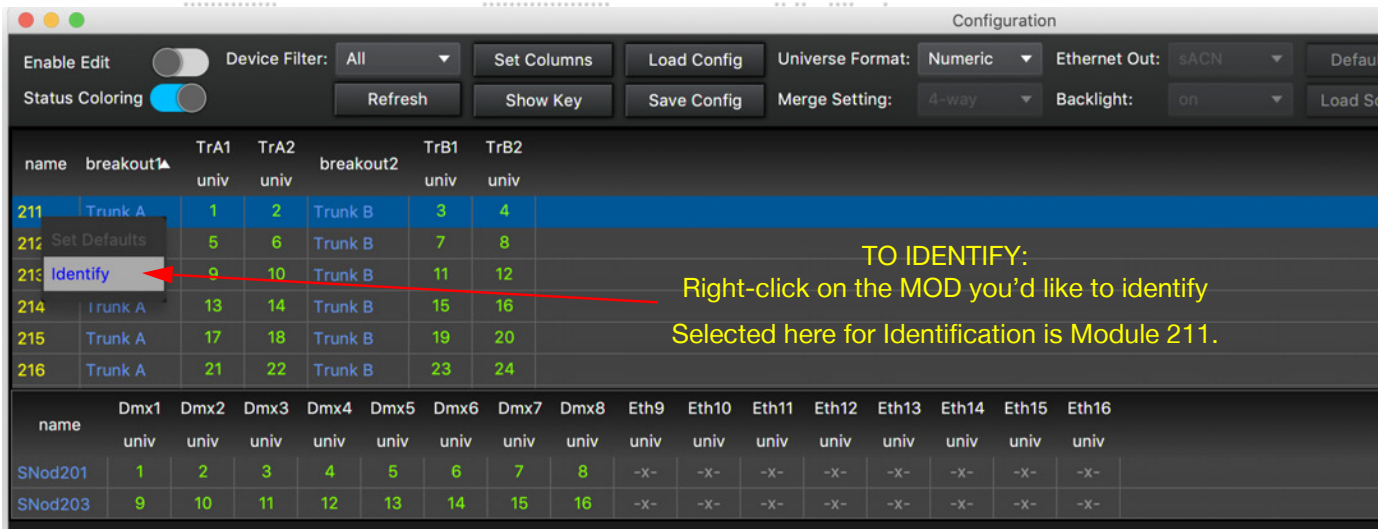

Figure 21: Identifying a Rack Module in the Configuration Window Using IDENTIFY
**To identify a Rack Module in your S400 System:** See Figure 21 on page 14.